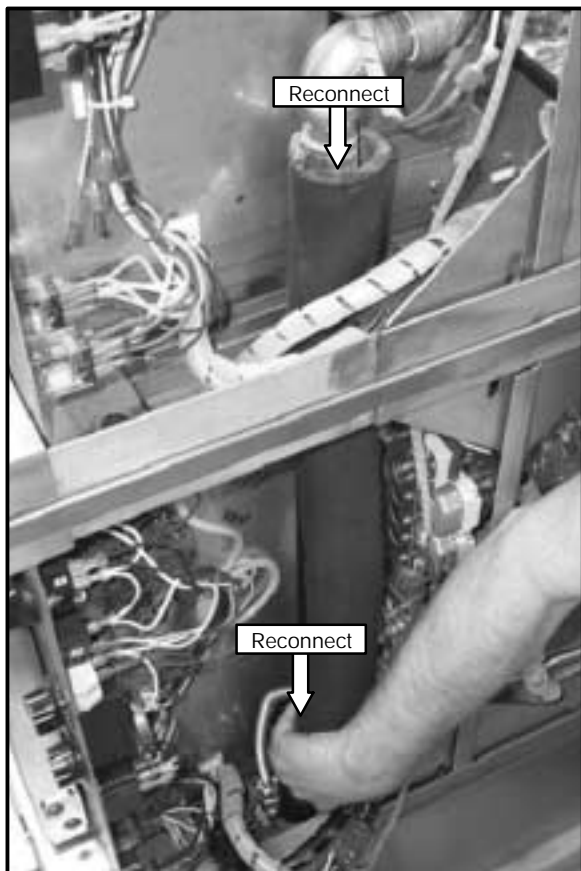

Figure 35
12. Install and reconnect the steam line to the upper oven section at locations shown in Figure 35. Secure the top of the hose with a band clamp. Insert the bottom of the hose in the fitting on the steam generator in the oven base section. This orange hose has a black foam insulated cover around it.